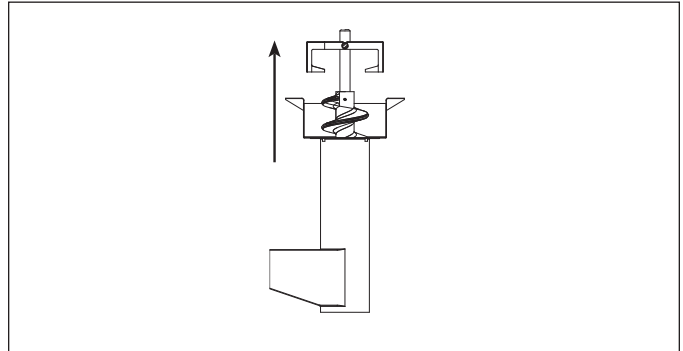

Figure 15.
- D. Remove auger from screen by lifting up (see Figure 15).